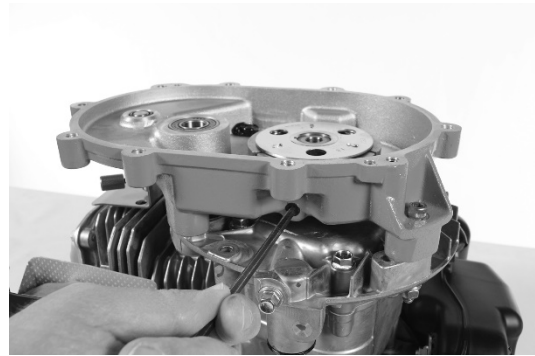

FIGURE 36
4. Using 3/16 inch (4.7 mm) Allen wrench, remove access screw from side of transmission cover. FIGURE 36